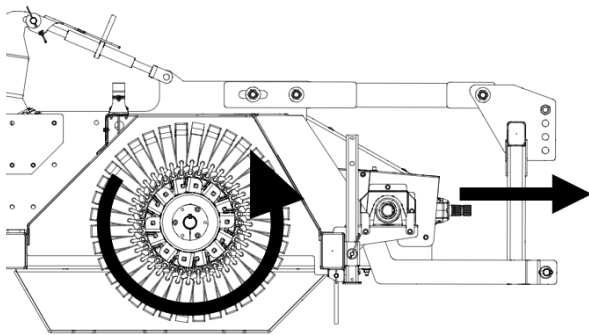

Figure 42. Rotor Direction of Rotation
9. Re-install locking collar and tighten in the direction of rotation (see Figure 42).